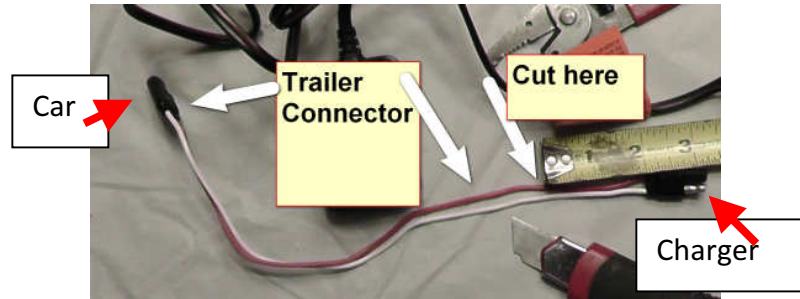

Fig. 8 Cut Trailer Connector Wires
- 5) Tape the wire nut in place. Tape the wires together below the wire nuts first with 2 turns. Then go diagonally up the wire nut and back down below it (in a "Figure 8" pattern). Then do 2 more turns below the wire nut again. Do this with one continuous piece of electrical tape.
17) Locate the plug where the white wire is connected to the male pin. (On the right side in Fig. 8). Cut the wires about 3" from the tip of that plug. **This plug will be attached to the charger in Steps 37-40.** Remove 1/2" of insulation from all four wires.
18) The trailer connector with the long wires (on the left side in Fig. 8) will be wired to the car. You may find it necessary to add about 3" of #18 insulated wire to the RED wire to do this. If you use wire nuts or butt connectors, add the additional wire after the trailer connector wire is threaded into the wiring compartment of the car. If you are going to solder the additional wire on, you can do it now if you like.